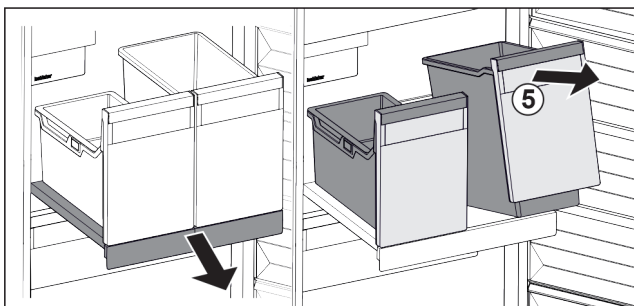

Fig. 89
- ▶ Lift the container Fig. 89 (5) at the front.